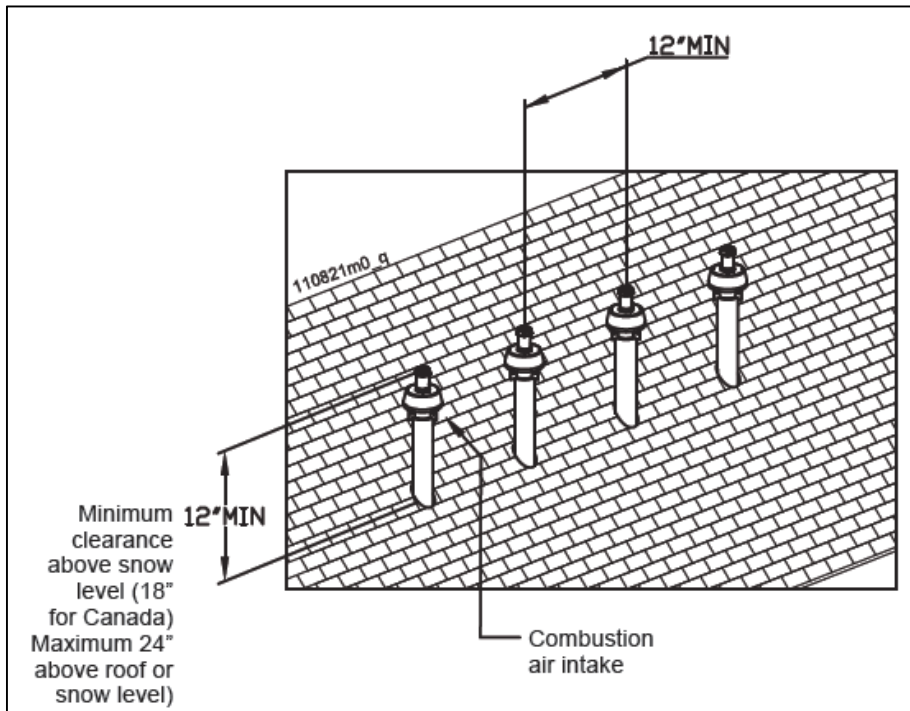

Figure 9.26
When two (2) or more direct vent appliances are vented near each other, each appliance must be individually vented (see Figure 9.26). NEVER common vent or breach vent this appliance. When two (2) or more direct vent appliances are vented near each other, two (2) vent terminations should be installed as shown in Figure 9.26. It is important that vent terminations be installed as shown to avoid recirculation of flue gases.